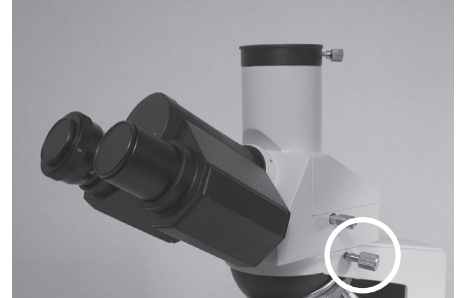

Figure 1
- ❸ Loosen the head set screw (circled in figure 1) and rotate the head 180° so the eyepieces face forward.
- ❹ Retighten the head set screw.